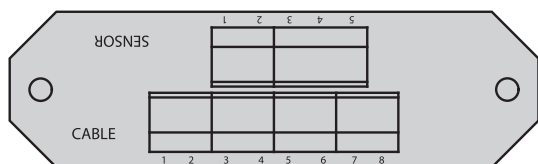

Figure 9
5. Install new probe and make probe connections as shown in Figure 9.